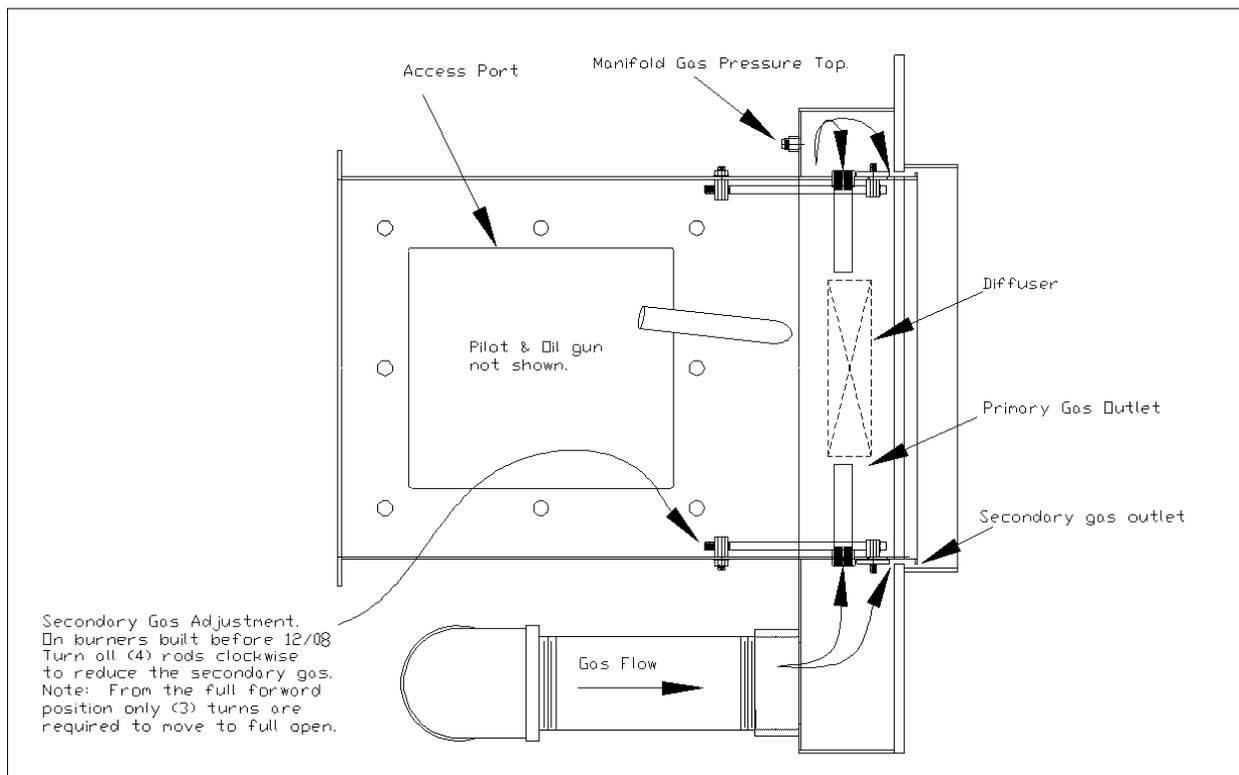

Figure 8: Burner Head Adjustment Details
- 3.2.4 Also, refer to Figure 8 for burner head adjustment details. As shown, there are four adjusting rods located inside the burner head which are reached through the access cover or port. These rods can be adjusted to vary the gas ratio between the diffuser and outer gas annulus. Turning the adjusting rods clockwise will reduce the gas flow to the outer gas annulus. The normal setting as shipped from the factory is 1 ½ turns back (counter-clockwise) from the full forward position. The gas distribution may be changed to improve overall performance on individual boiler/heat exchangers. However, the counter-clockwise adjustment should not be made so far back as to lose flame retention on the diffuser. When adjustments are made, turn rods only ½ turn each at a time to avoid jamming. After the burner is mounted and all wiring and piping has been completed, tested and determined to be correct, the following procedures are recommended: